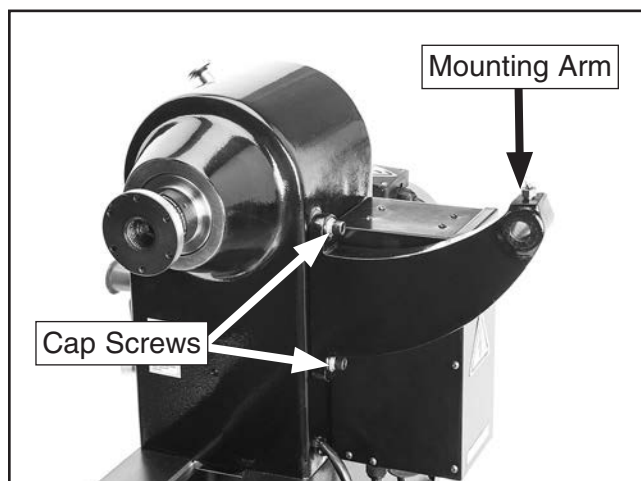

Figure 21. Chuck guard mounting arm installed.
15. Use (2) M10-1.5 x 30 cap screws, (2) 10mm flat washers, and (2) 10mm lock washers to attach the chuck guard mounting arm to the back of the headstock (see **Figure 21**).